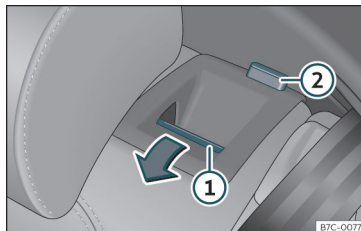

Fig. 128 On the rear seat backrest: release button ①; red mark ②.
- Push the unlock button »» Fig. 128 ① forwards and at the same time lift the backrest.
- The rear seat backrest is not engaged when the red marking of the button ② is visible.
The rear seat backrest is not engaged when the red marking of the button »» Fig. 128 ② is visible.